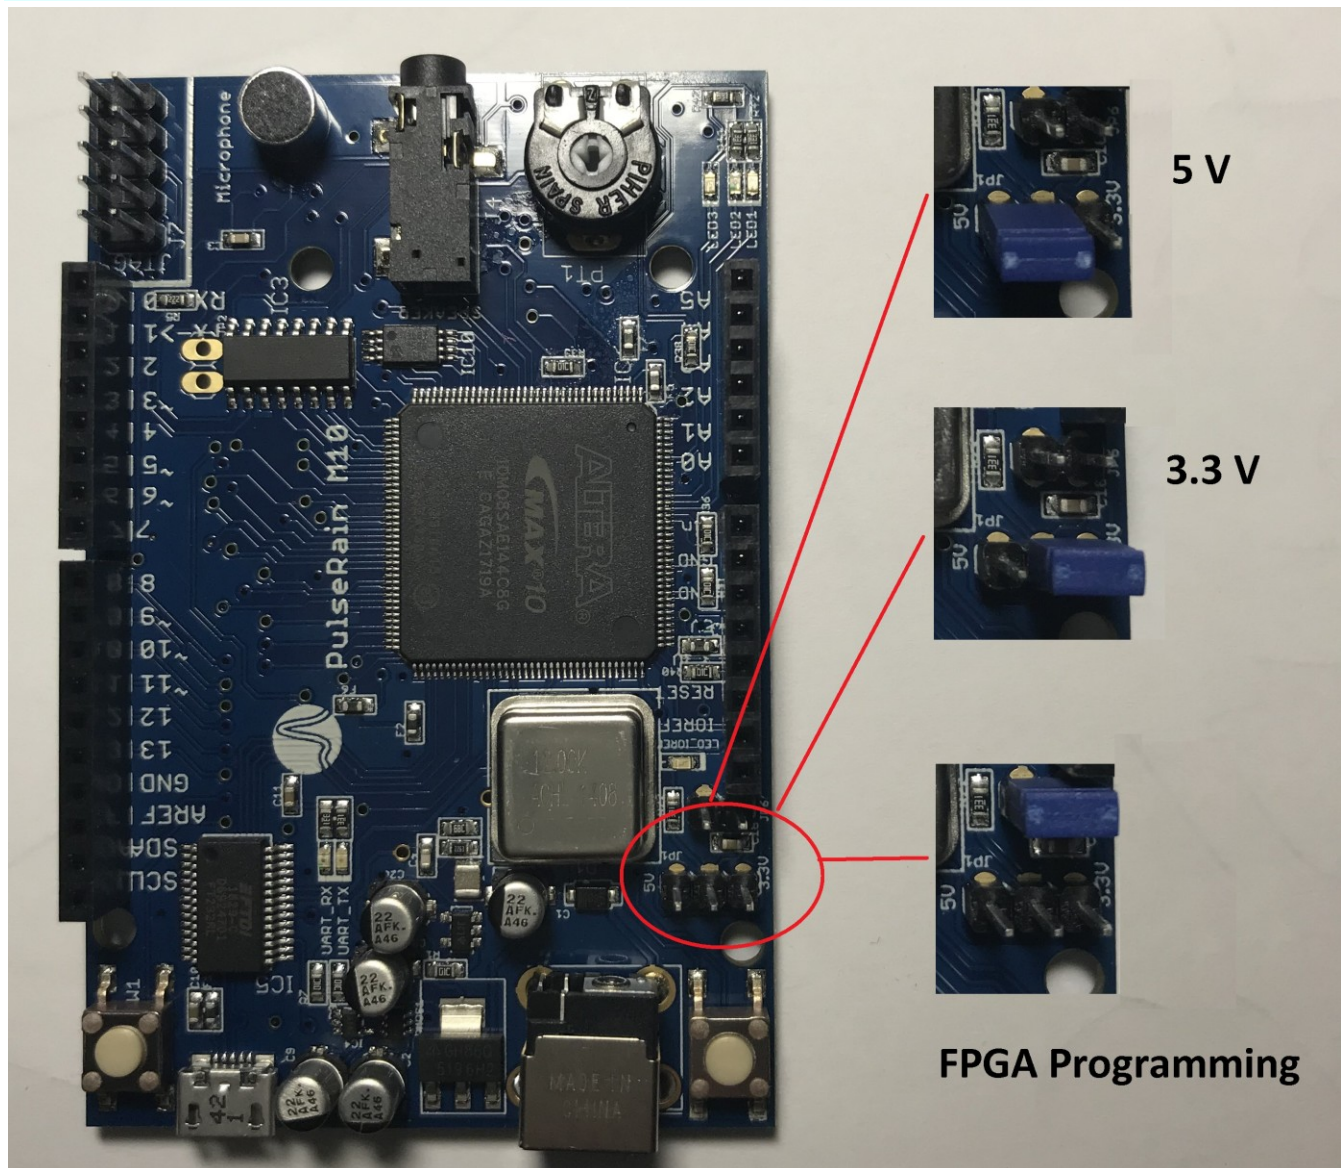

Figure 2-10 Set JP6 to Program the Flash Memory
- 2) Put a jumper on JP6, as illustrated in Figure 2-10.